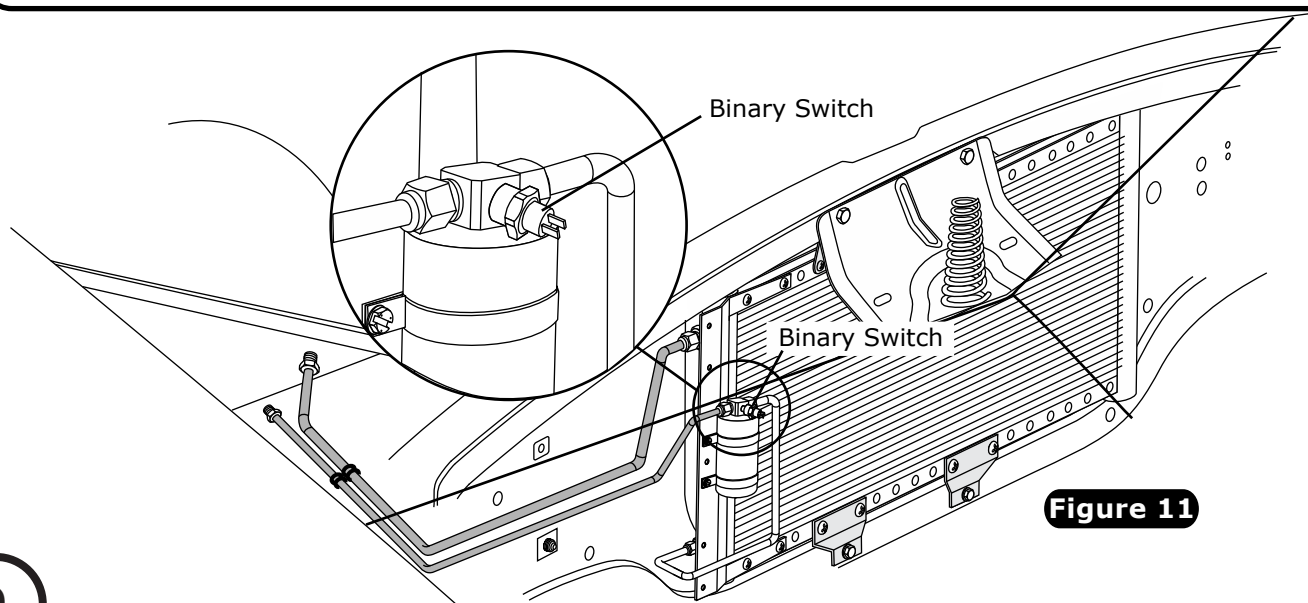

Figure 11
1. Install binary switch on drier as shown in Figure 11, below.